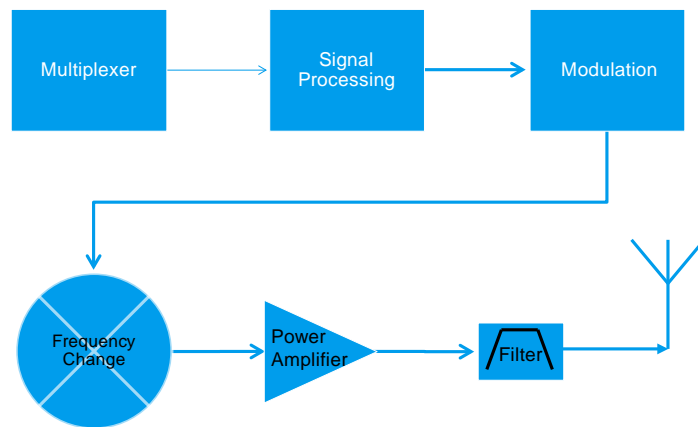

Figure 6. Simplified transmitter block diagram
Figure 6 gives a high level view of the key components that make up the transmit side of a communication system. First the multiplexer is used to route the desired information into the transmit path. Signal processing is then added to condition the signal for transmission. Next the signal is modulated into whatever modulation scheme the application requires. In the early days this may have been Amplitude Modulation (AM) or Frequency Modulation (FM), today there are a wide range of digital modulation schemes with many based on Orthogonal Frequency-Division Multiplexing (OFDM) techniques.